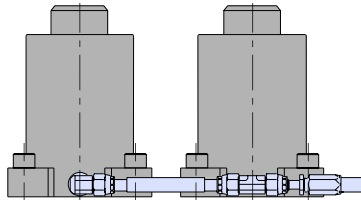

Fig. 3
- When possible use solid fittings, see Fig. 3. Solid fittings come in predetermined lengths and can replace hose that requires crimping. Solid fittings are ideal for limited space applications and may be used with Large Series Nitrogen Gas Springs: 90.5B Series, 90.9 Series, 90.10 Series, 90.10R Series, and SC Series models 1000 – 18300. Refer to the *90.10 Series Catalog* (#99C102B) for ordering information on solid fittings.